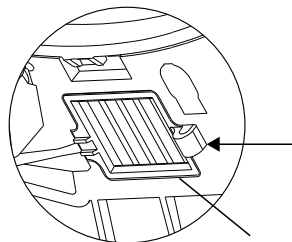

Fig 3
- ☐ Remove old cartridge (fig 3), adjust next cartridge exchange due date (fig 4). Install new cartridge and tighten as shown (fig 5).
- ☐ At the tip of cover bottom, unbuckle to remove deodorizer screen (fig 3).